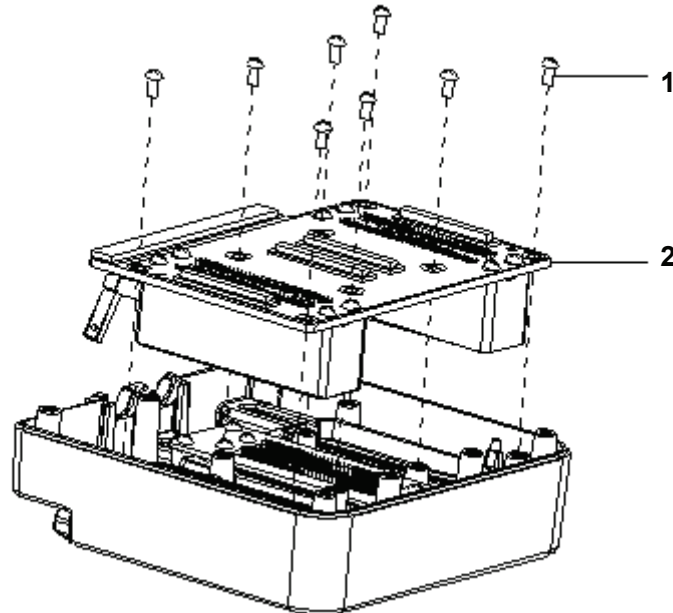

Figure 4-39 Removing Transducer Extension Module (4)
8) As shown in Figure 4-39, remove 8 M3×6Philips panhead screws, and carefully pull out the A transducer extension board